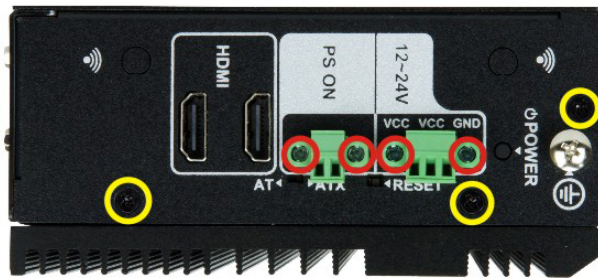

Figure 3-8: Terminal Block Screws and Top Panel Bracket Screws
Step 3: Remove the top panel bracket. Loosen the screws (circled in red) to remove the two terminal block covers. Remove the three retention screws circled in yellow. See Figure 3-8.